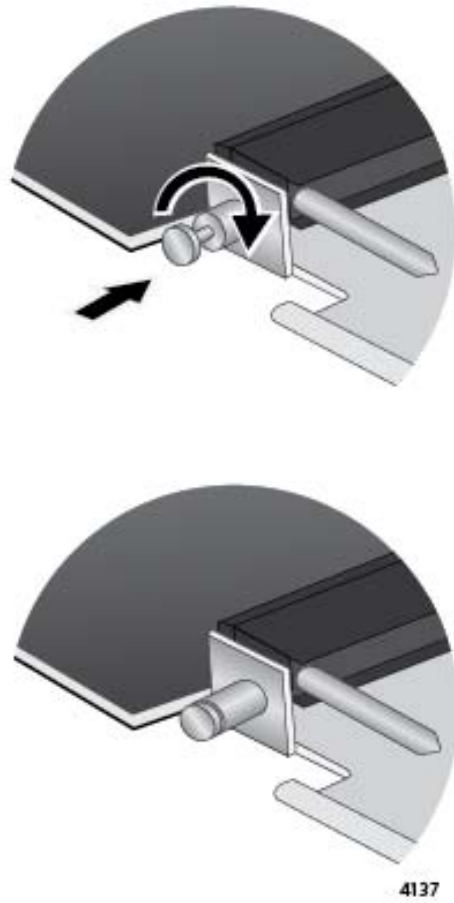

Figure 179. Releasing the Retaining Pin
11. Turn the retaining pin on the side of the card a quarter turn to release it. Refer to Figure 179 on page 281.